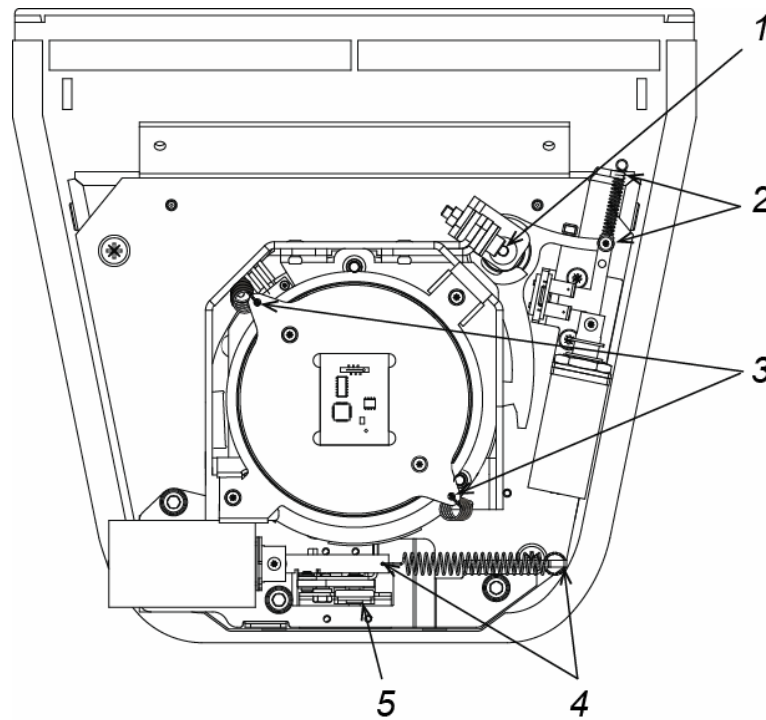

Figure 18. The turnstile mechanism maintenance
3. Check security of the barrier arms (3) mounting to the hub and tighten the barrier arms fixing screws if needed.
5. Detach the turnstile housing (1) with LED indication from the turnstile base. Follow steps given in Sect. 6.
- the rotation axis of the stopper lever (point **1**, Fig. 18) with **Chain and Rope Lube Spray – WEICON** or another with similar properties;
- spring attachment points (points **2, 3, 4** in Fig. 18) with molybdenum grease;
- emergency unblocking mechanism components (automatic lowering of the anti-panic barrier arm, (**5** in Fig. 18)) with **Chain and Rope Lube Spray - WEICON** or another with similar properties.
8. Check the reliability of the connector blocks cable connections on the control (9) and interface (10) boards. Tighten the cable fixing screws if necessary.
10. Insert the lower part of the housing hooks into the base grooves (6) and lower it half the height. Connect the indication cable (8) to the turnstile LED-indication and to the **X8 (INDICATION)** connector on the interface board and put the housing all the way down. When lowering the housing, make sure that the indication cable (8) folds forward and is not pinched by structural elements. Secure the housing with four screws on the bottom of the base.
11. Install the hub (4) with barrier arms (3) in the following order:
- Secure the hub with three screws with spring washers (5); preliminary, to fix the screws securely, apply a bit of the supplied sealant to the bottom of their threads.